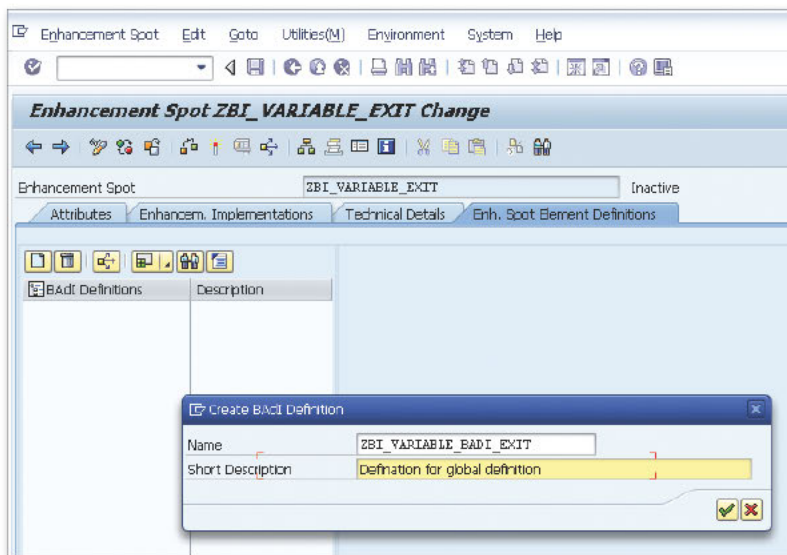

Figure 1 Defining the Filter
3. In the pop-up window, enter the technical name "ZBI_VARIABLE_BADI_EXIT" and a description for BAdI definition as shown in Figure 1.